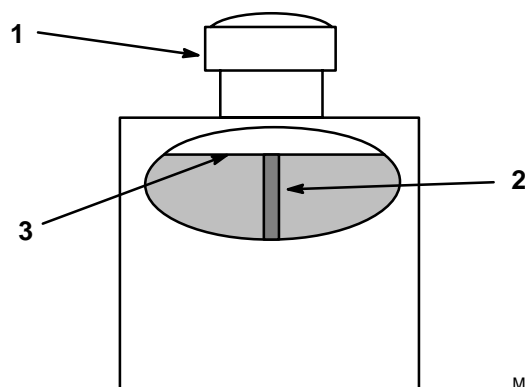

Figure 41
2. Clean area around filler neck of hydraulic tank (Fig. 41).
3. Remove cap from filler neck and look inside to check fluid level. Fluid level should be above the baffle inside the tank (Fig. 41).
4. If level is low, add fluid to raise level to above the baffle (Fig. 41).